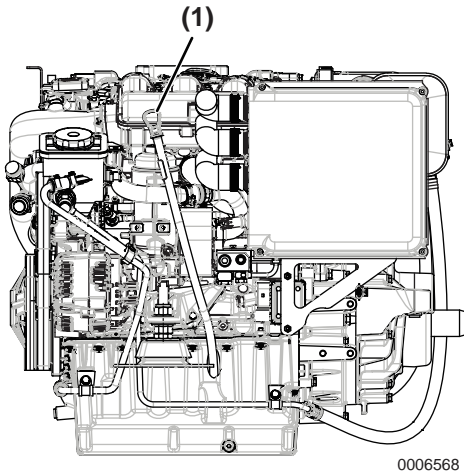

Figure 3
2. Remove dipstick (**Figure 3, (1)**) and wipe with clean cloth.